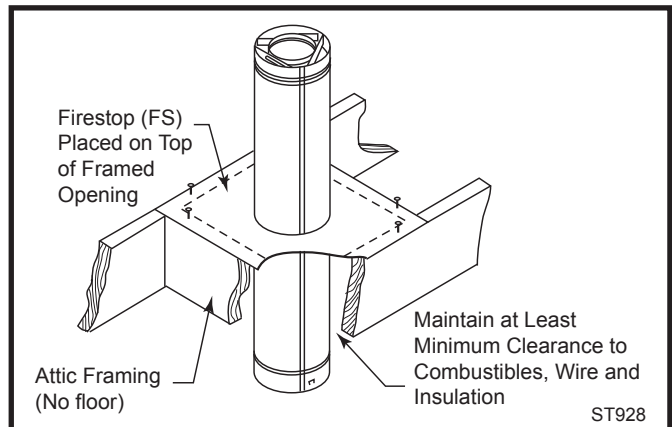

Fig. 39 Firestop spacer.
DIRECT-TEMP must be firestopped wherever it passes through floors, ceiling or walls. The only location where a firestop is not required is at the roof level. Both vertical support components with trim plates provide for firestopping. The wall thimble also acts as a firestop. AT other locations, a firestop spacer (FS) should be installed. In the attic the firestop should be placed on top of the joist framing to prevent debris from falling into the joist framing. (Fig. 39)